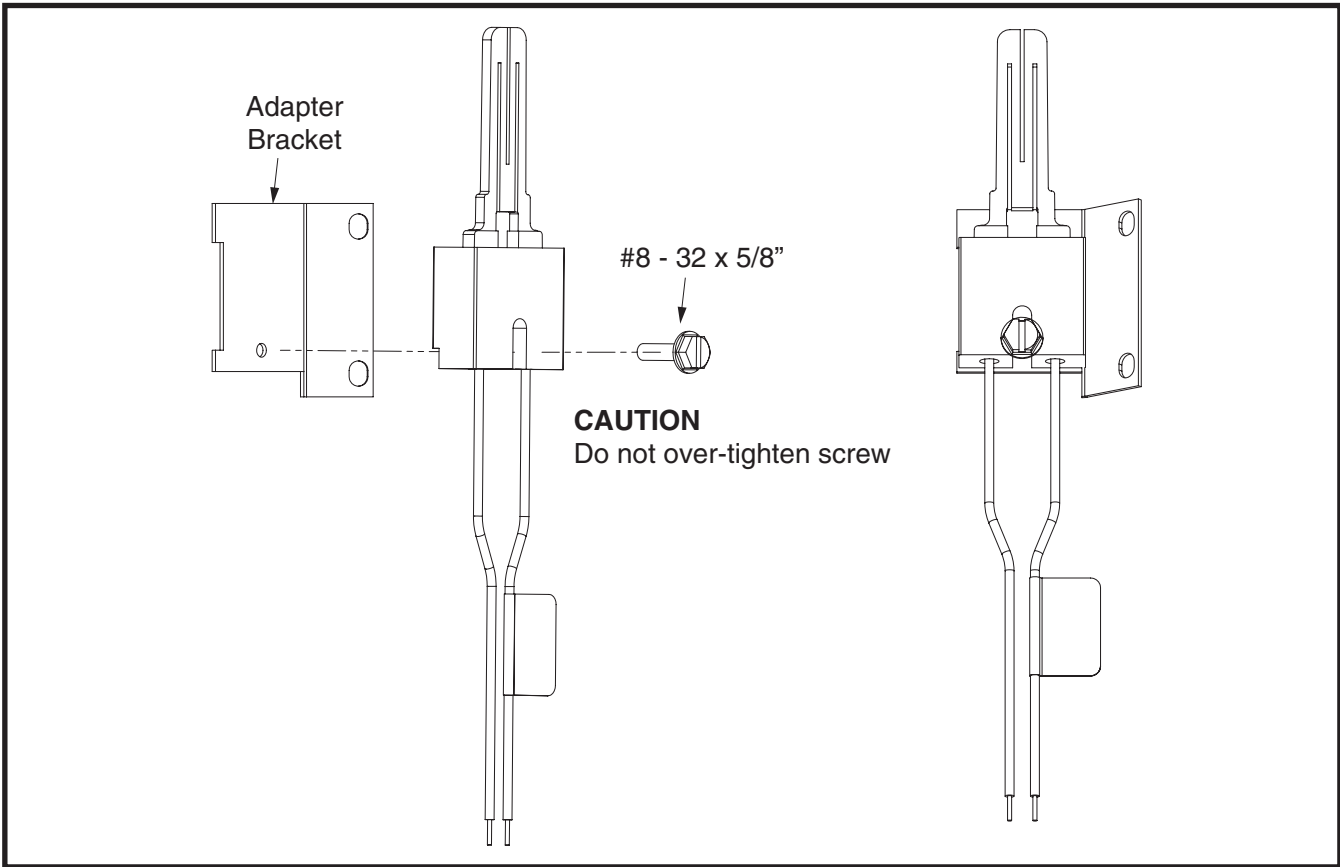

Figure 1. Secure the Igniter
1. The adapter bracket has 2 clearance holes and 1 bite hole to secure the igniter. See Figure 1.